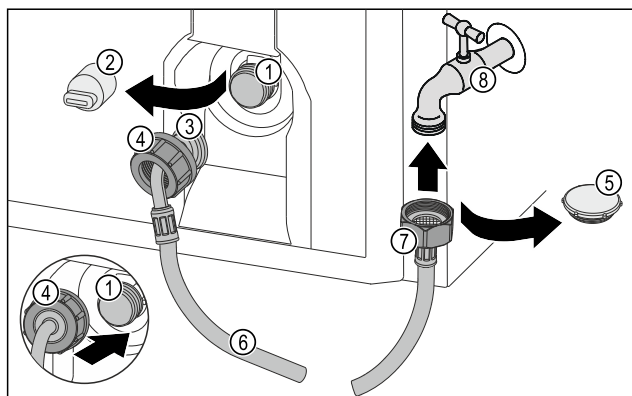

Fig. 47
- ▶ Remove the closure cap Fig. 47 (5).
- ▶ Place the straight end of the hose Fig. 47 (7) on the tap Fig. 47 (8).
- ▶ Tighten the nut at the straight end of the hose Fig. 47 (7) in a clockwise direction.